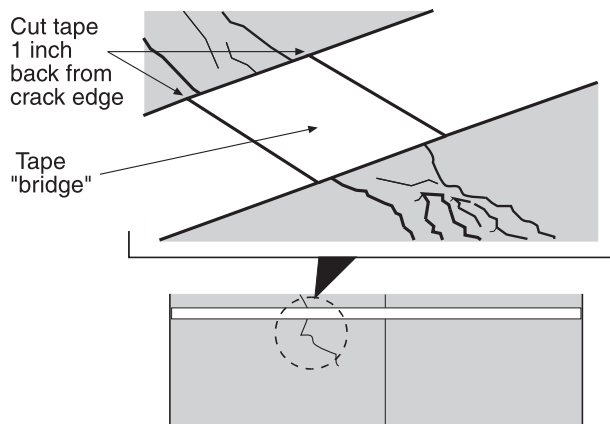

Figure 18.
*Note:* If there is a crack in the road that causes the tape to bridge, lay the tape over the crack, tamp the tape, and then cut the tape one inch from each side of the crack. (See Figure 18.)